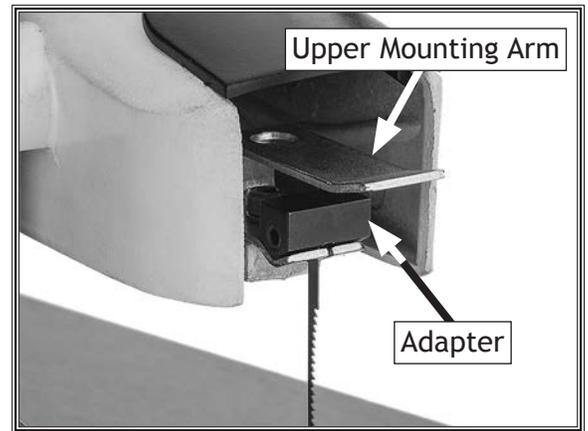

Figure 30. Adapter with plain-end blade installed on upper mounting arm.
6. Slide one end of blade assembly through hold-down shoe, and place the adapter over the upper mounting arm (see **Figure 30**).